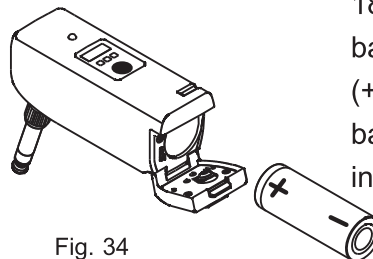

Fig. 34
(B) Install a fully-charged 18500 rechargeable battery with positive (+) polarity end of battery towards inside, Fig. 34.